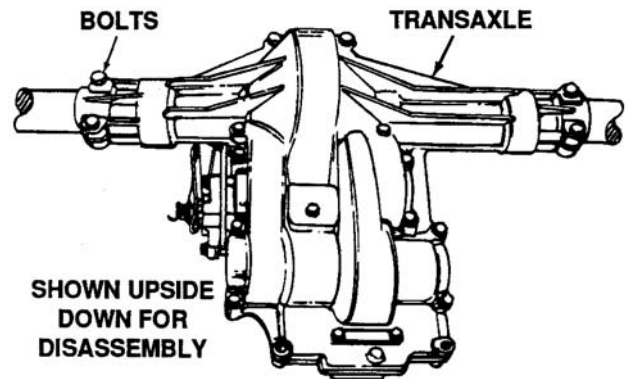

Figure 5-31. Removing Bolts From Transaxle
5. Remove eighteen perimeter bolts from transaxle housing. See Figure 5-31.